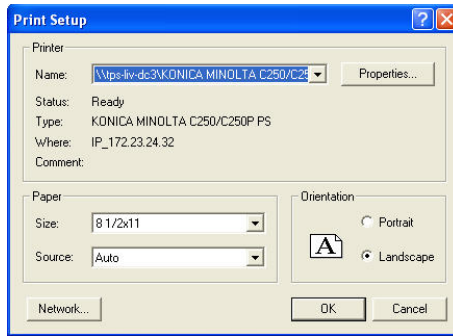

Figure 5-41. Print Setup
- Desktop directory – press the **Browse** button to specify to specify the directory for synchronization on your PC device (Figure 5-41 on page 5-38).
1. Click **File ▶ Print Setup** (Figure 5-41).